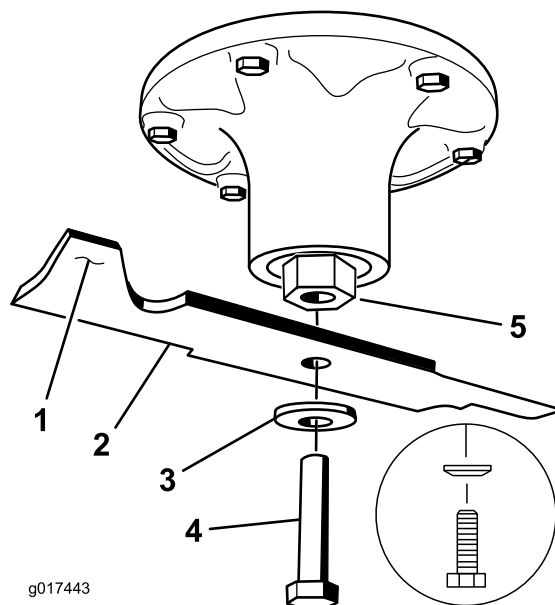

Figure 70
2. Remove the blade bolt, curved washer, and blade from the spindle shaft (Figure 70).
1. Install the blade onto the spindle shaft (Figure 70).
2. Install the curved washer and blade bolt (Figure 70).